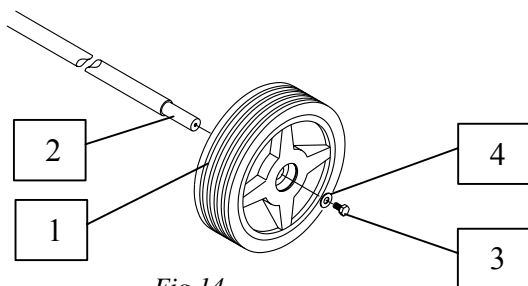

Fig.14
- 3 Take one of the wheels 1 and fix it to the axle 2 using the relative screw 3 and washer 4 provided (Fig.14).